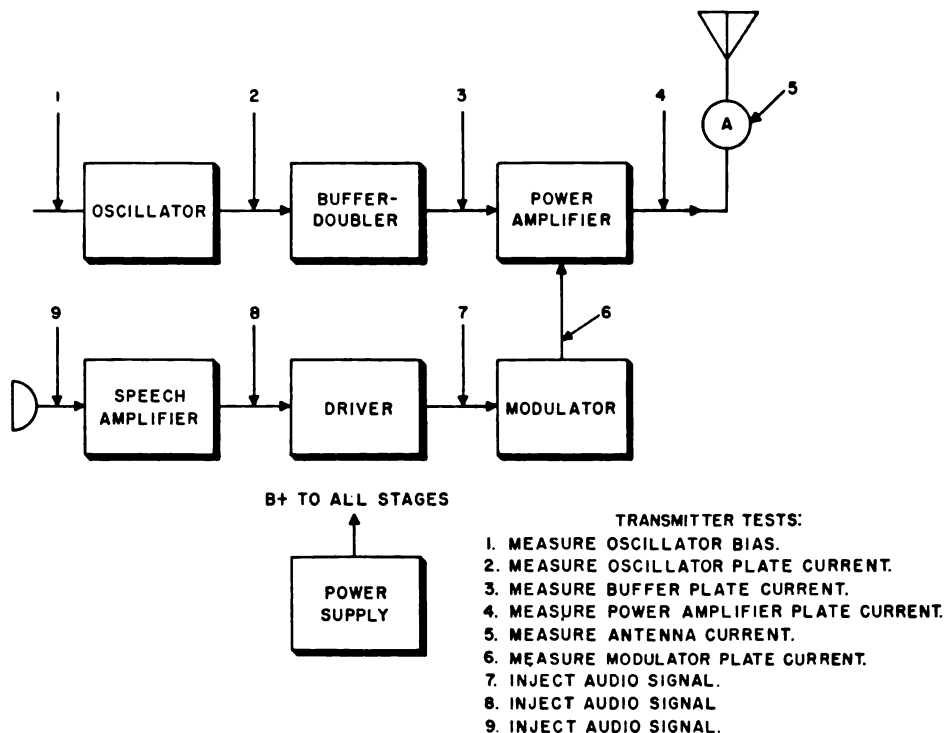

Figure 71. Simple transmitter, block diagram.
stage is found, B+ voltages are measured to aid in isolating the trouble. In the simple transmitter represented in figure 71, the key test points are:
- (1) Oscillator grid circuit.
- (2) Oscillator plate milliammeter.
- (3) Buffer plate milliammeter.
- (4) Power amplifier plate milliammeter.
- (5) Antenna ammeter.
- (6) Modulator plate milliammeter.
- (7) Driver output.
- (8) Driver input.
- (9) Speech amplifier input.
b. Test No. 7 in figure 71 requires the injection of an audio signal. Usually, this is practi-